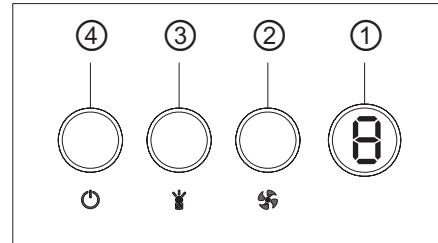

Fig.7
**Note:** Operate switches (Fig.7)